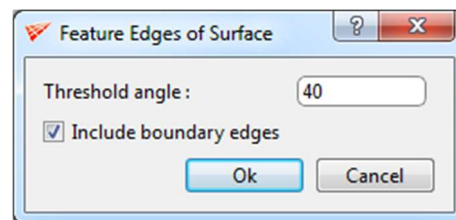

Figure 4.183: Feature edges dialog box
***Feature edges*** is the foremost tool to be used while creating the surface. This creates corners on the *current* surface slope discontinuity using the surface nodes, otherwise called as *surface triangulation nodes*. Once the **feature edges** are selected from the dropdown list, a dialog box opens, as shown in Figure 4.183. You need to input the **threshold angle** to calculate/find out where the slope discontinuities are. By default, it takes 40 degrees. The feature angle will be calculated at every node on the *current* surface; wherever it exceeds the given feature angle, a corner will be created on that node which will be later linked with the corners created adjacent to it and also assigned to the *current* surface. You can also include/exclude the boundary edges of the surfaces from using this utility. Including the boundary, edges will make the utility calculate the feature angle on the surface boundaries also and create corners if it exceeds. This can be done by checking/unchecking the ***include boundary edges*** check box.